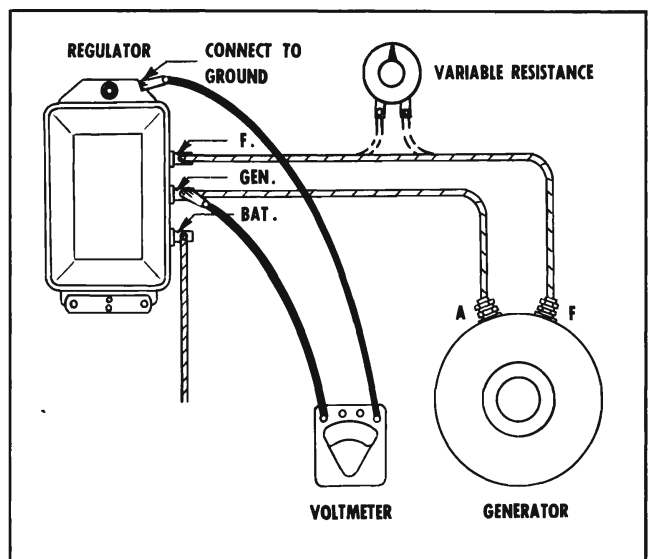

Fig. 11-41 Checking Closing Voltage
1. Connect a voltmeter between the regulator "Gen" terminal and ground (Fig. 11-41).